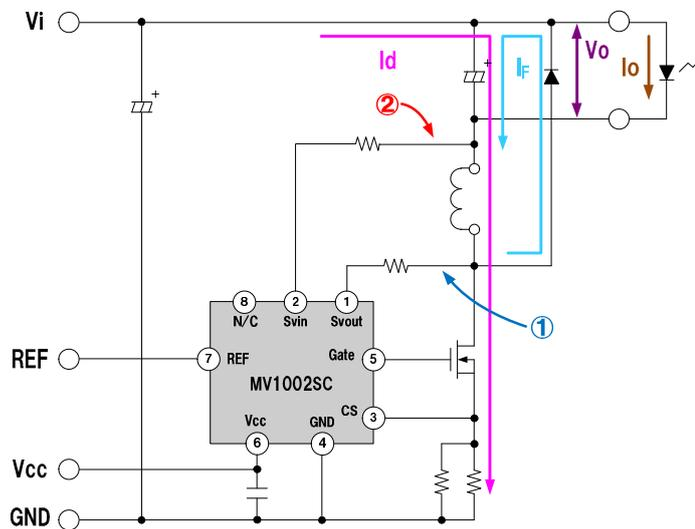
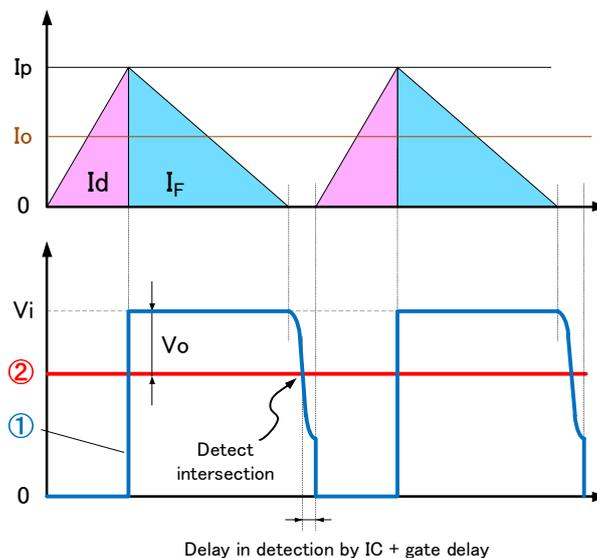

Figure 1 CRM step-down chopper circuit
Figure 2 MOSFET and diode current waveforms of the CRM step-down chopper and voltage waveforms on both ends of the choke
The MV1002SC is a critical conduction mode (CRM) step-down chopper control IC. Figure 1 shows the circuit configuration. Figure 2 shows the waveforms of currents flowing to the MOSFET and the diode, represented by I_D and I_F , respectively. In a general CRM step-down chopper circuit, the MOSFET is turned on after the I_F becomes zero, leaving little recovery current for the diode and lower losses and noises than a PWM circuit. Meanwhile, disadvantageously, the oscillation frequency changes dramatically as the output current (LED current) changes, resulting in poorer dimming characteristics and efficiency.
The MV1002SC detects I_D , converted to a voltage, with the current detection pin (CS pin). When it reaches the CS reference voltage, the MV1002SC turns the MOSFET off (peak current detection). The IC performs CRM control in this way: When the diode current I_F becomes zero, the S_{vout} voltage falls below the S_{vin} voltage, so the IC detects this state (zero current detection) and turns the MOSFET on. The voltages on both ends of the choke (① and ② in Figure 2) are divided with resistors and input to the S_{vin} pin and the S_{vout} pin to achieve CRM operations without auxiliary winding. Additionally, the off-time modulation prevents the frequency increasing during dimming and achieves constant high efficiency and dimming characteristics during deep dimming. (See Section 5 [Dimming characteristics] on page 19.)
Figure 3 shows an example of a starting operation in the Vcc->REF sequence, using the circuit configuration shown in Figure 1.